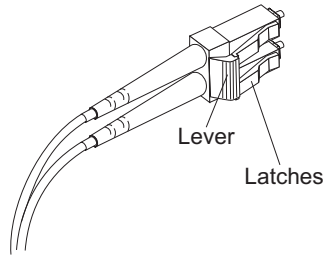

Figure 33. LC-LC Fibre Channel cable lever and latches
1. On the end of the LC-LC cable that connects into the SFP module or host bus adapter, press down and hold the lever to release the latches, as shown in Figure 33.